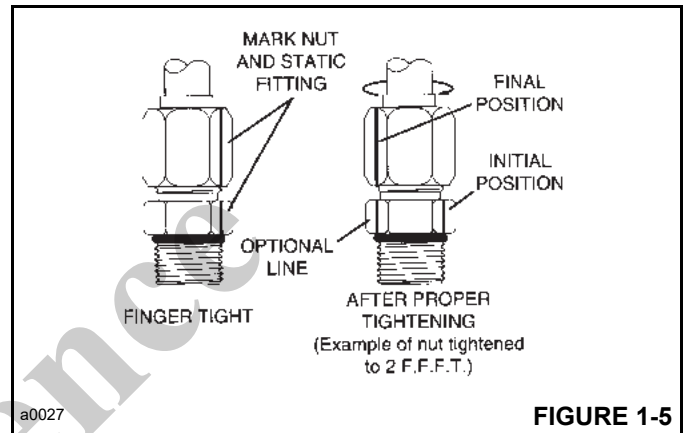

FIGURE 1-5
6. Optionally for future tightening of the same connection: extend the line from the nut at its new location onto the hex of the static fitting or port (Figure 1-5).